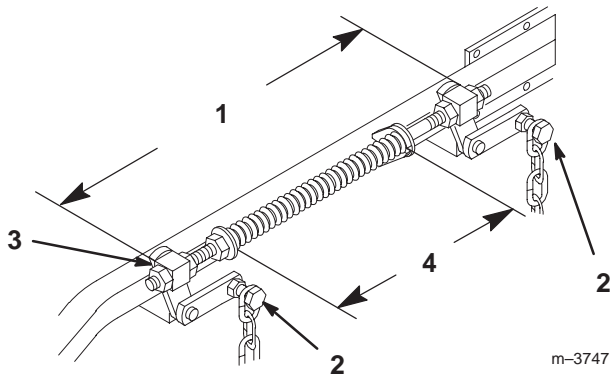

Figure 61
- Loosen four (4) top chain bolts in slots. Check the length of the rod/swivel assemblies. Distance from outside of rear swivel to outside of front swivel should be 19–17/32 inch (496 mm) (Fig. 61). Make sure that all four swivels move freely in holes.
2. Springs are compressed so the distance between the two large washers should be 10–1/4 inch (260 mm) (Fig. 61).
3. Adjust by turning nut in front of each spring (Fig. 61). Clockwise will shorten spring; counter-clockwise will lengthen spring.